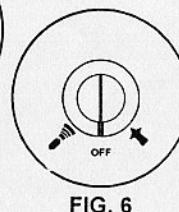

FIG. 6
WHEN NOT IN USE. (Fig. 6)
- Switch lantern to "OFF" position. (Fig. 6)